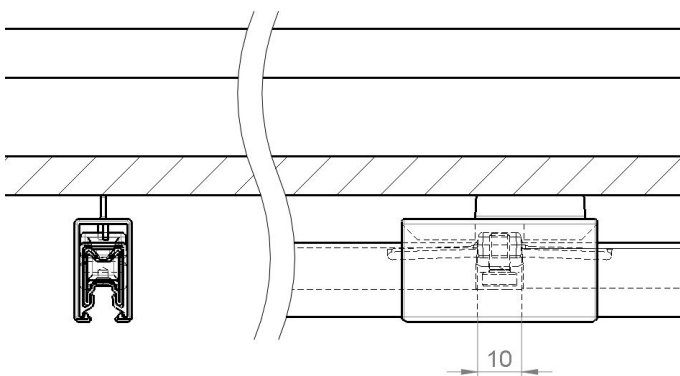

Fig. 53: Rail connector
- If the connector cap cannot rest on the guideway profile, hanger clamps must be placed at maximum distances of 200 mm on both sides of the connector position (see Fig. 53).